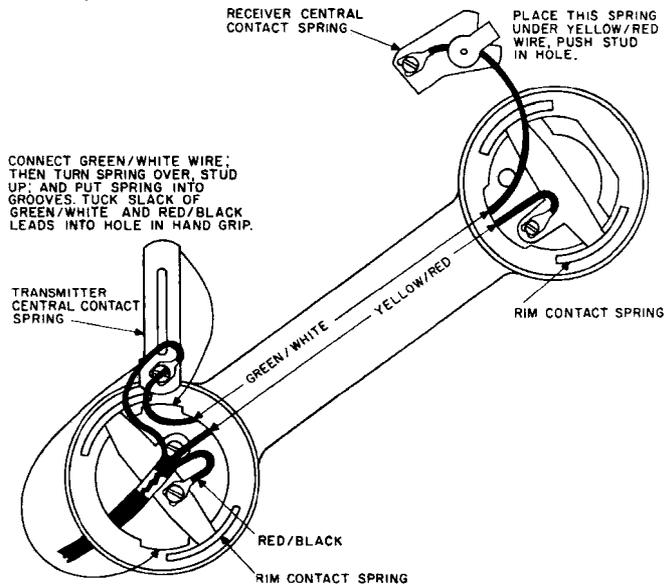

Figure 26. Type 81 handset cord replacement.
- g. Follow the instructions for removing the handset capsules as described in section 6.1. Remove the transmitter and receiver center contact springs (figure 26). Then loosen the screws and disconnect the leads from the center contact springs. Loosen the screws and disconnect the leads to the rim contact springs at the receiver and transmitter. Then pull out the old cord.
- b. Connect the yellow lead to the receiver rim contact spring and the green lead to the receiver center contact spring as shown in figure 26.
replace the spring into the grooves of the transmitter well with the stud ends up (figure 26).